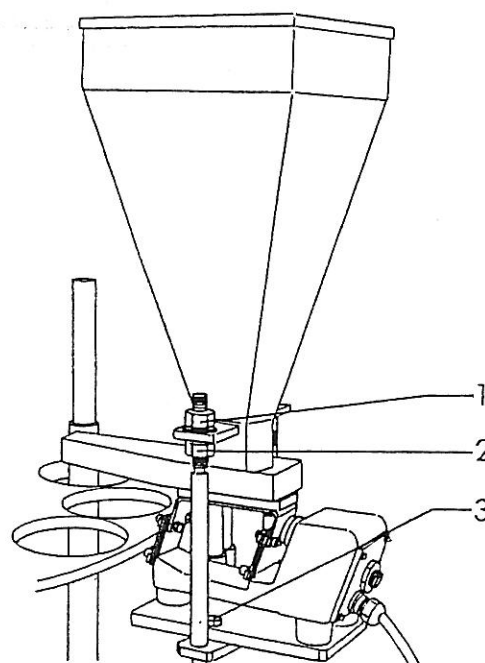

Fig.10.1.11
- Loosen the two nuts 1 fig. 10.1.11.
- Once adjustment has been carried out, tighten nuts 1 fig. 10.1.11 firmly;
- Loosen the two screws 3 fig. 10.1.11;